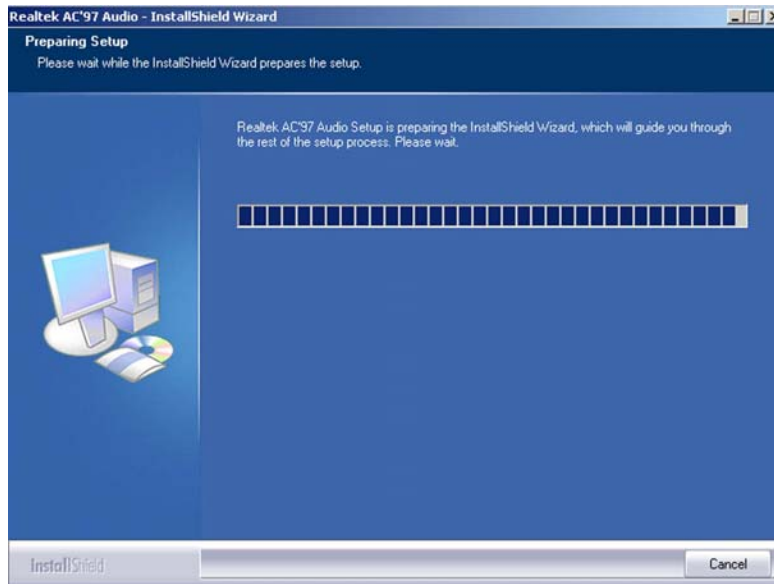

Figure 6-7: Audio Driver Setup Preparation
Step 3: The RealTek Audio Setup prepares the install shield to guide you through the rest of the setup process. See **Figure 6-7**.